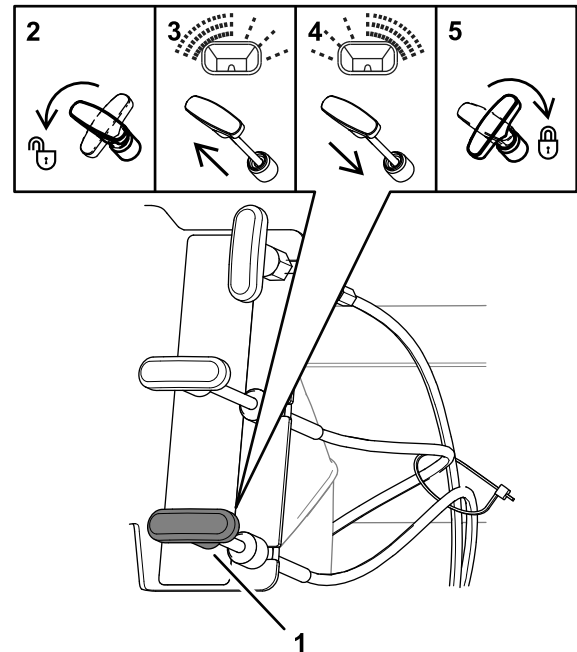

Figure 27
1. Unlock the diffuser control by turning the handle counterclockwise 90° as shown in 2 of Figure 27.
- If the material is broadcast too heavy at the left side of the machine, push the diffuser control down slightly; refer to 3 of Figure 27.
- If the material is broadcast too heavy at the right side of the machine, pull the diffuser control up slightly; refer to 4 of Figure 27.
3. Lock the spreader-pattern control by turning the handle clockwise 90°; refer to 5 of Figure 27.